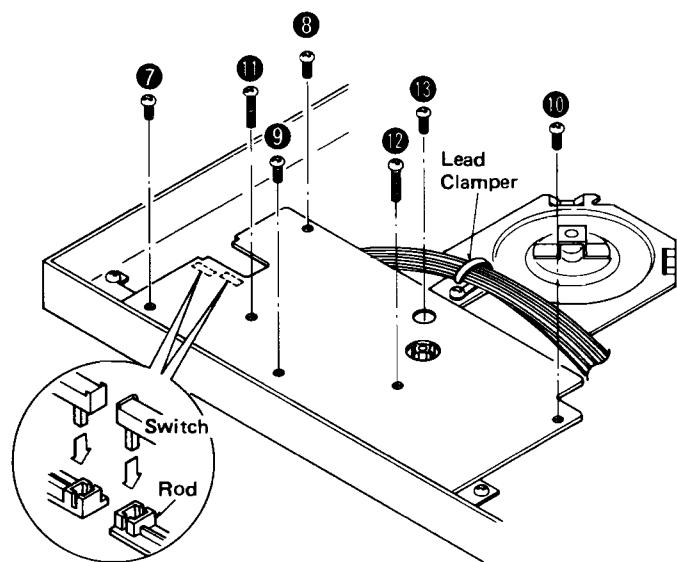

Fig. 6
2. Remove the 7 setscrews (Fig. 6: 7 ~ 13) of the operation circuit P.C.B. and lead wired from the lead clamer.